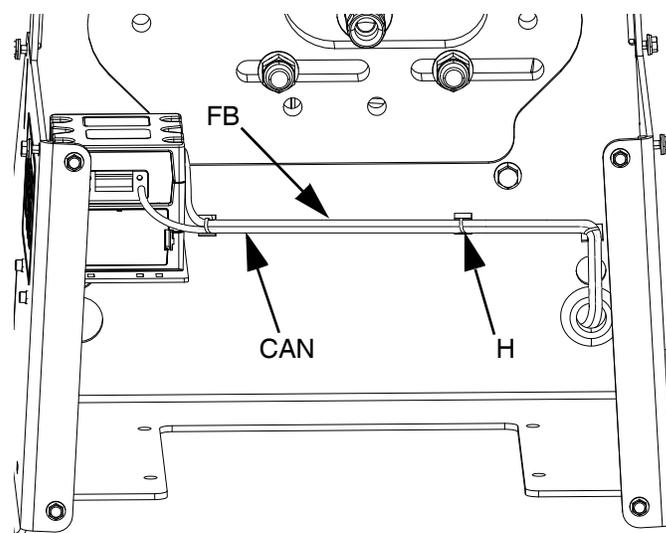

FIG. 4
4. Secure the CAN cable (CAN) and the fieldbus cable (FB) to the frame using the cable ties (H) provided, and route them through the protected opening as shown in FIG. 4.